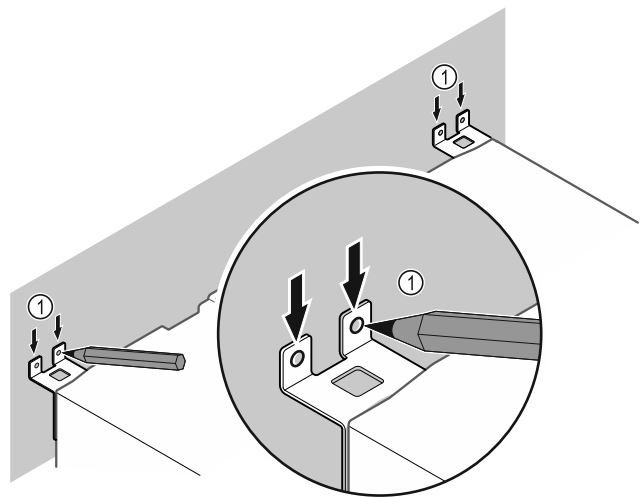

Fig. 52
- ▶ Make markings on the wall Fig. 52 (1).